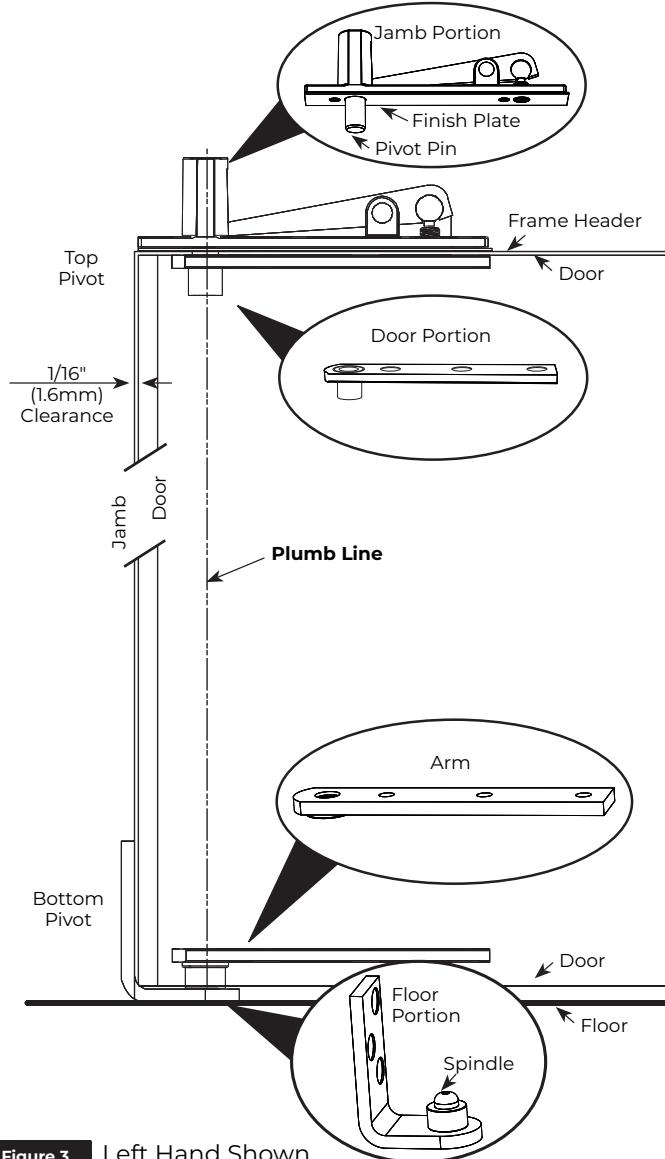

Figure 3 Left Hand Shown
4. Install jamb portion and finish plate of top pivot into frame header using two (2) 1/4-20 X 3 3/4" FHMS or #14 X 1-1/2" FHWS. Refer to template PS30210. (Figure 3)
5. Using Norton Rixson alignment tool 2604, secure plumb line to jamb portion top pivot pin. (Figure 3)
6. Using plumb line, locate bottom pivot floor portion spindle centerline. With bottom pivot floor portion as a template, mark location of mounting holes. (Figure 3)